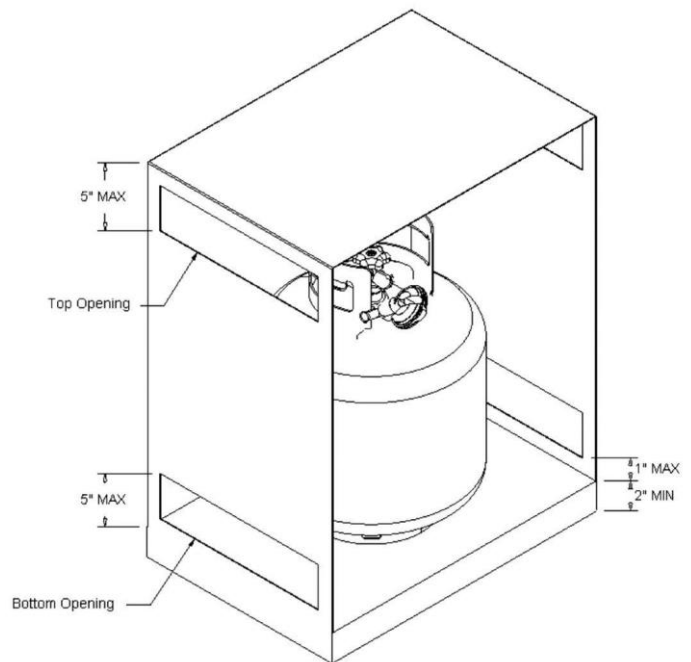

Figure 6.1 – Top and bottom side ventilation openings for LP tank enclosure.
- At least two ventilation openings shall be provided in the side walls of the enclosure, located within 5 inches (127mm) of the top of the enclosure, equally sized, spaced at a minimum of 180 degrees, and unobstructed. The opening(s) shall have a total free area of not less than 1 in² lb. (14.2 cm²kg) of stored fuel capacity. See Figure 6.1.